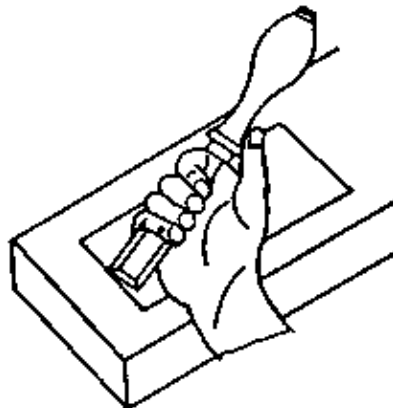
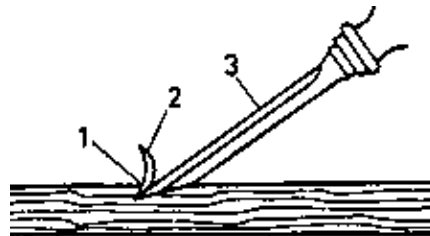

Figure 9 Precutting along the scribed line
Figure 11 Notching along the scribed line
- precut and notch at the limiting line across the grain (see Fig. 9 to Fig. 11),